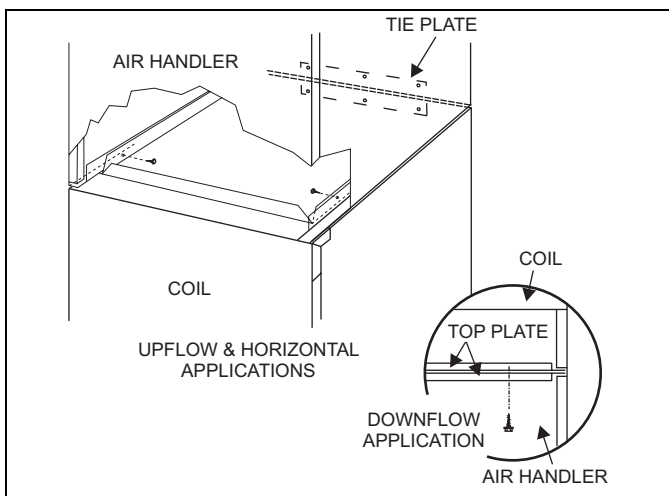

FIGURE 2: Coil and Air Handler Attachment Details
5. Fasten duct flanges of coil to duct flanges of air handler with screws. See Figure 2.
6. Fasten duct flanges of coil to base of air handler with screws. See Figure 2.